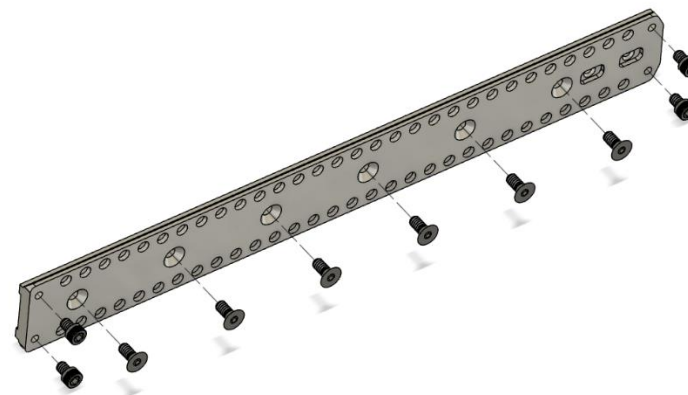

Figure 1. Mounting screw and end stop screw layout.
2. Using 1/8" Hex Key, install the six included 10-24x7/16" Flat Head Cap Screws through the dovetail rail and into the forend's threaded holes (see Figure 1). A medium strength thread-locking compound may be used on the threads. Torque the mounting screws to 50 lb-in (5.6 N-m).